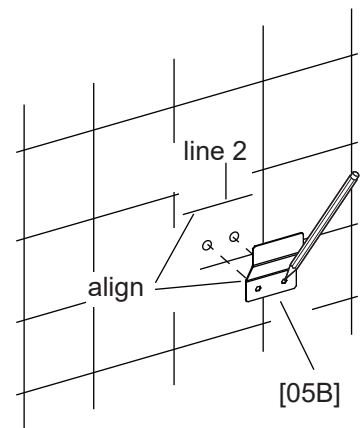

Fig 1.3
- 1-3** Position the **Bracket [05B]** on the wall with its lower corner align with line 2 and center with the outlet. Then mark the wall through the screw holes of the **Bracket [05B]**. (Fig 1.3)